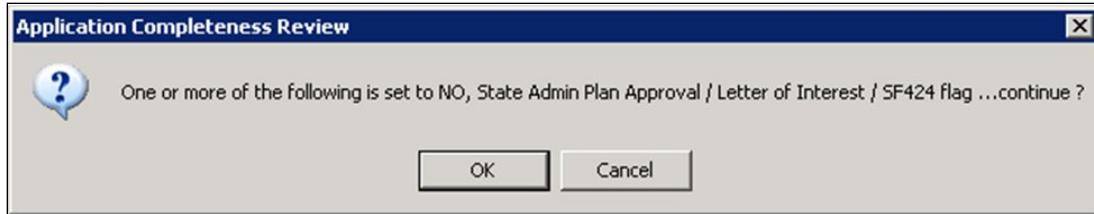

Figure 7-19: Continue Completing Work Step Confirmation Message
- Project Planning (P)
- Management (M)
- Initiative (I)
- Regular (R)
- a. If you selected "No" to any of the first three questions, the system confirms if it should continue completing the work step (Figure 7-19).